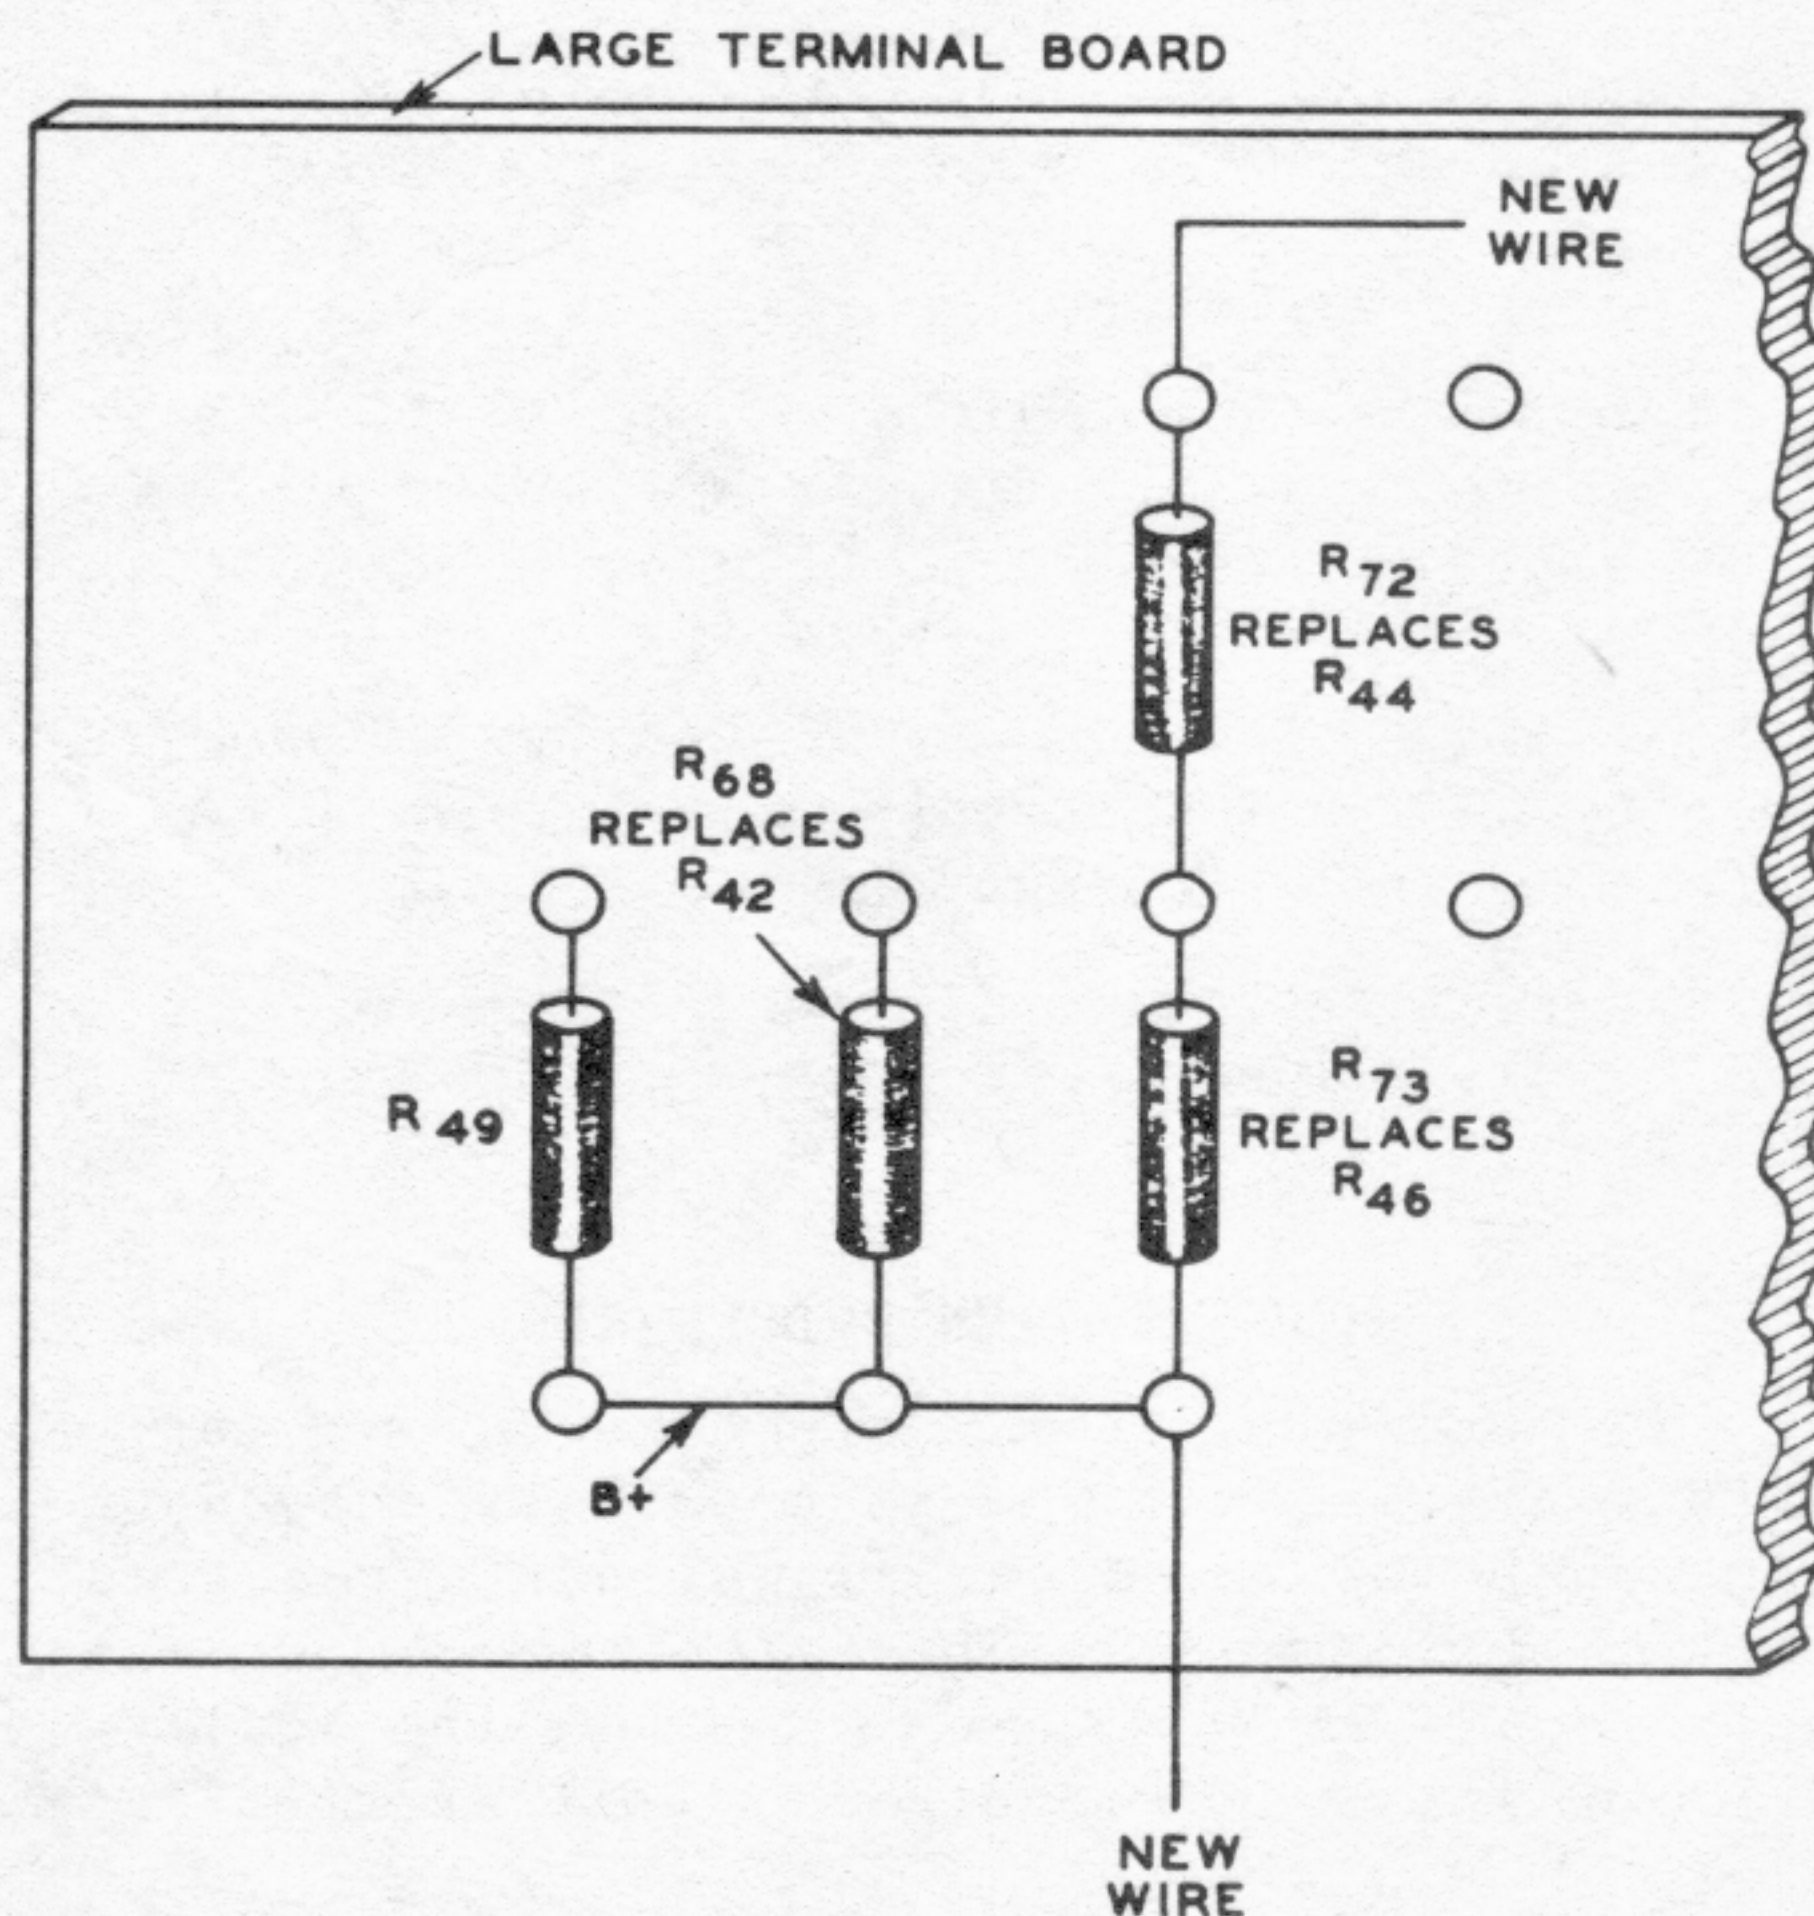

Fig. 3 - Locations of Parts on Large Terminal Board
17. C44 from the ground lug of V6 socket to the insulated lug on new 2-lug terminal strip (A).
19. R41 from middle terminal of old 3-lug terminal strip to middle lug of new 3-lug terminal strip (B).
21. R67 from pin 5 of V7 to middle lug of new 3-lug terminal strip (B).
22. R68 from bottom (B+) terminals to lug adjacent to end resistor R49 on large terminal board. (See Figure 3).
24. R70 from CI3 to end lug of new 3-lug terminal strip (B).
25. R71 from pin 2 of V7 to insulated lug of new 2-lug terminal strip (A).
26. R72 on large terminal board in series with R73. (See Figure 3, and step 27).
27. R73 from bottom (B+) terminals to the middle terminal adjacent to R68 on large terminal board. (See Figure 3).
29. New wire from top of R72 to insulated lug of new 2-lug terminal strip (A). Dress wire
around panel end of the large terminal board. (See Figure 3).
30. New wire from common junction of R49, R68, and R73 (B+) on the bottom of the large terminal board to end lug of new 3-lug terminal strip (B). (See Figure 3).